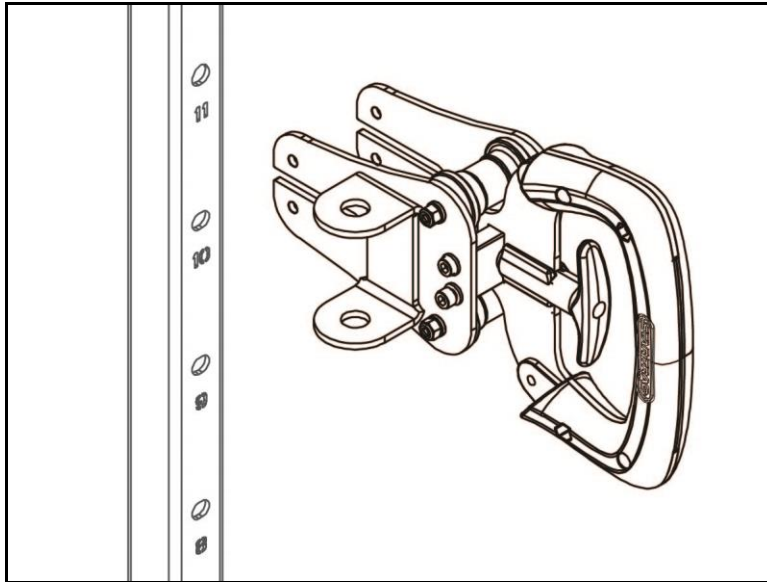

Fig. 9
- Mount the carriage assembly onto the adjustment bar (Fig. 9) and allow the pin to engage into one of the available holes.